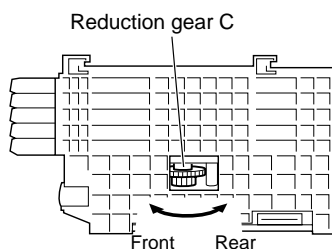

Figure 2
### 3.1. How to remove CD Disc. (See Fig. 2~5)
1. When CD is at play position, Rotate reduction gear C clock-wise as shown in Figure 2 Until disc tray is at stalk position, then rotate further to eject the disc tray so that CD can be removed from the tray.
If the gear up down board is located at tray No. 1 position, then rotate gear clock-wise until is at stalk position. Rotate reduction gear D (Figure 2) to move the CD mechanism to tray No. 3 position.